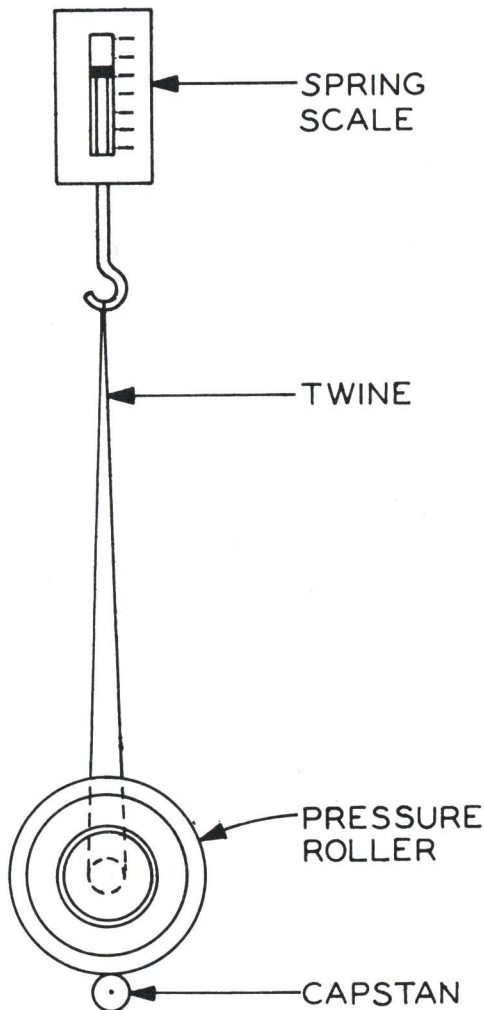

FIGURE 6-5
1. Attach one end of a strong piece of twine around the pressure roller shaft and the other end to a spring scale capable of measuring up to 10 pounds. See figure 6-5
urement must be taken. The pulling force at this point should be between 9 and 10 pounds or 4.5 kilograms. See Figure 6-5.